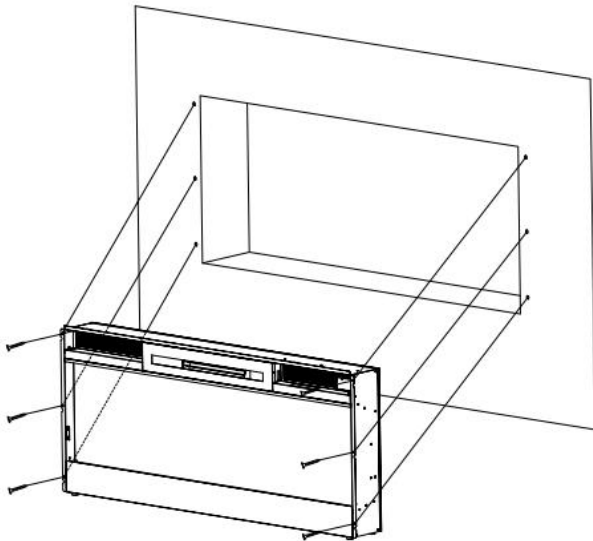

Fig. 2-1
- Use the 6 screws (provided) to lock the appliance into the wall with the existing two side flanges, see Figure 2-1.